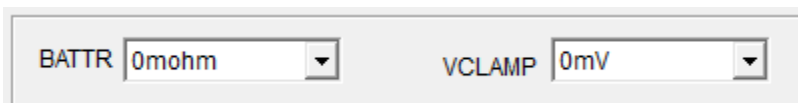

Figure 22: Battery Impedance Compensation
2. Set the battery impedance compensation in charge mode (see Figure 22).